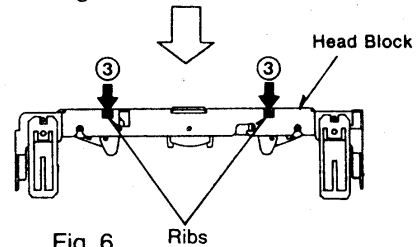

Fig. 6
4. Remove the pinch roller in the direction of the arrow ③. (See Fig. 6.)